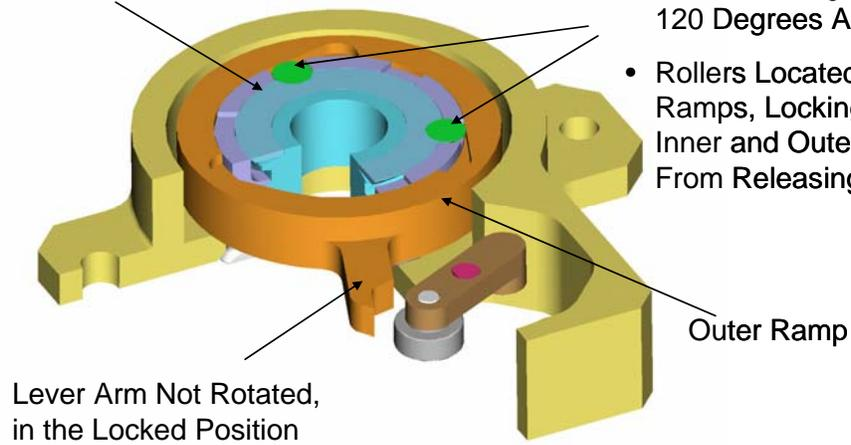

Figure 7. Cam Assembly in the Locked Position
*Fig. 6, Fig. 7* and *Fig. 8* show the cam release assembly. In the locked position, the cam ring is forcing the rollers through the slots in the outer helical ramp into the pockets in the inner helical ramp. When the cam ring is allowed to rotate counter clockwise by the motor, the radial force on the rollers rotates the cam ring, releasing the rollers from the pockets in the inner helical ramp. This allows the inner helical ramp to screw down in the outer helical ramp, releasing the strain load on the bolt as shown in *Fig. 9*. With the bolt load released, the radial force on the segments is removed and the wave spring lifts the locking ring off of the segments. The segments are driven outward, releasing the bolt. A bolt extractor is required to reliably separate the bolt from the nut.